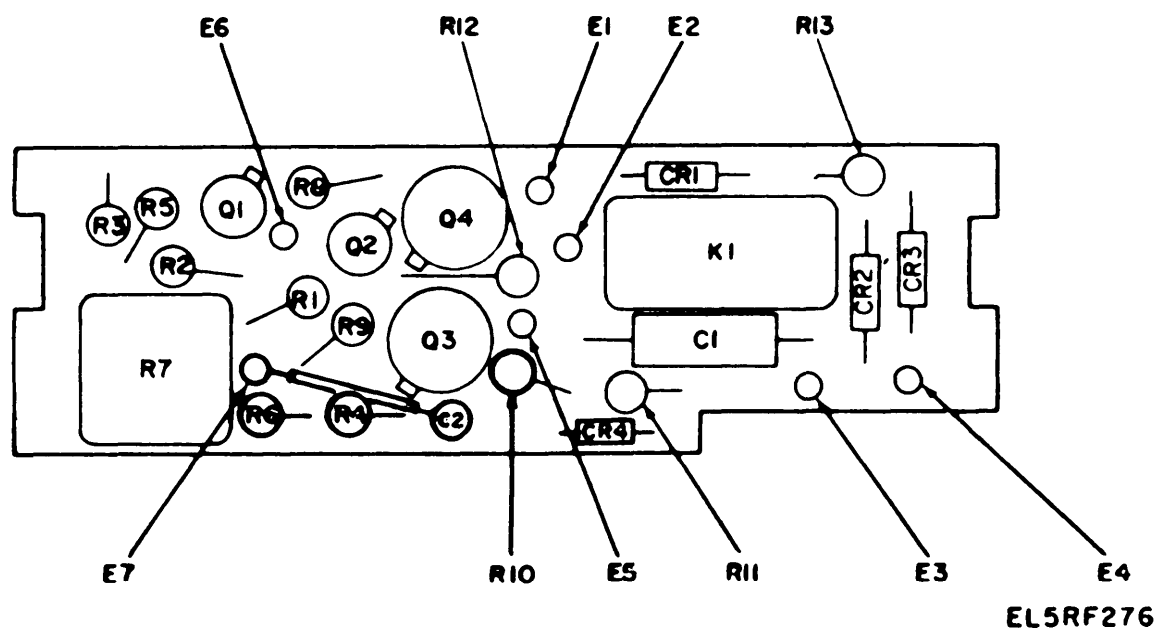

Figure 3-101. Alarm Control 5TR1A3A1, Parts Location
C. Troubleshooting (fig. 3-101).
Incorrect meter reading; Test facility control alarm lamp lights.	Measure the voltage at CR2, CR3, CR4, Q1, and Q2 (fig. 3-101 and FO-36) as described in d below.